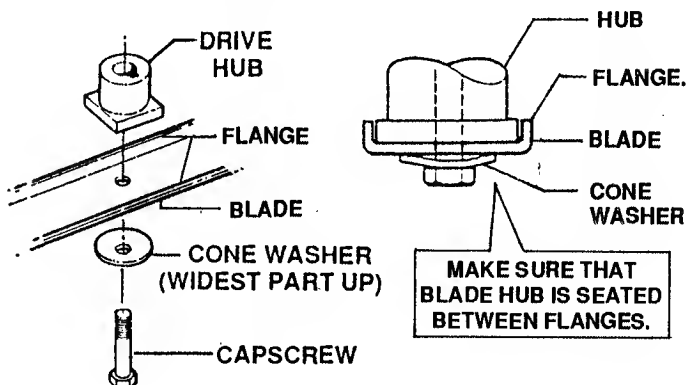

FIGURE 3.7
3. Remove blade. See Figure 3.7
6. Reinstall blade. Refer to Figure 3.7. Torque blade mounting capscrew to 30 ft. lbs.